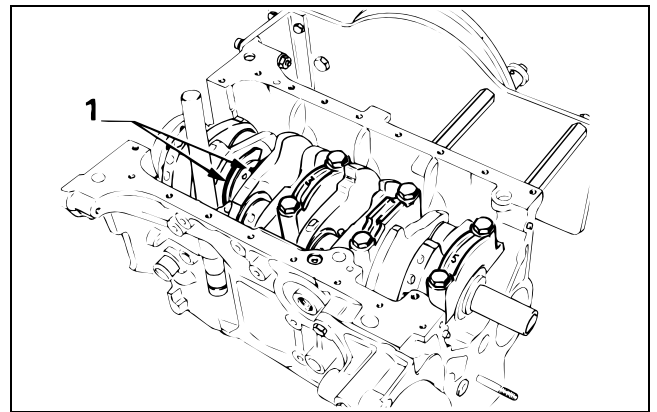

Figure 72
5. Install the two end float half-washers (Fig. 72, Item 1), with the anti-friction faces towards the crankshaft.